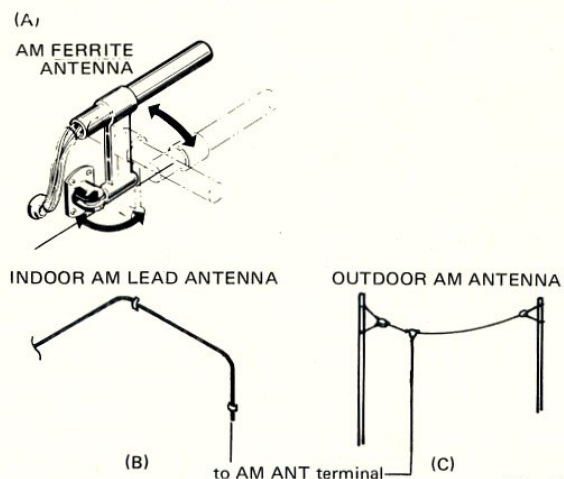

Fig. 7
Under normal conditions it will be sufficient to adjust the ferrite bar antenna mounted on the rear panel of the receiver for optimum broadcast signal reception as shown in Fig. 7 and in accordance with the instructions given on page 12 "AM Reception."
- Use vinyl-sheathed wire as shown in Fig. 7 for the indoor lead antenna.
- For an outdoor AM antenna, use trees, etc., to suspend the vinyl-sheathed wire as shown in Fig. 7.